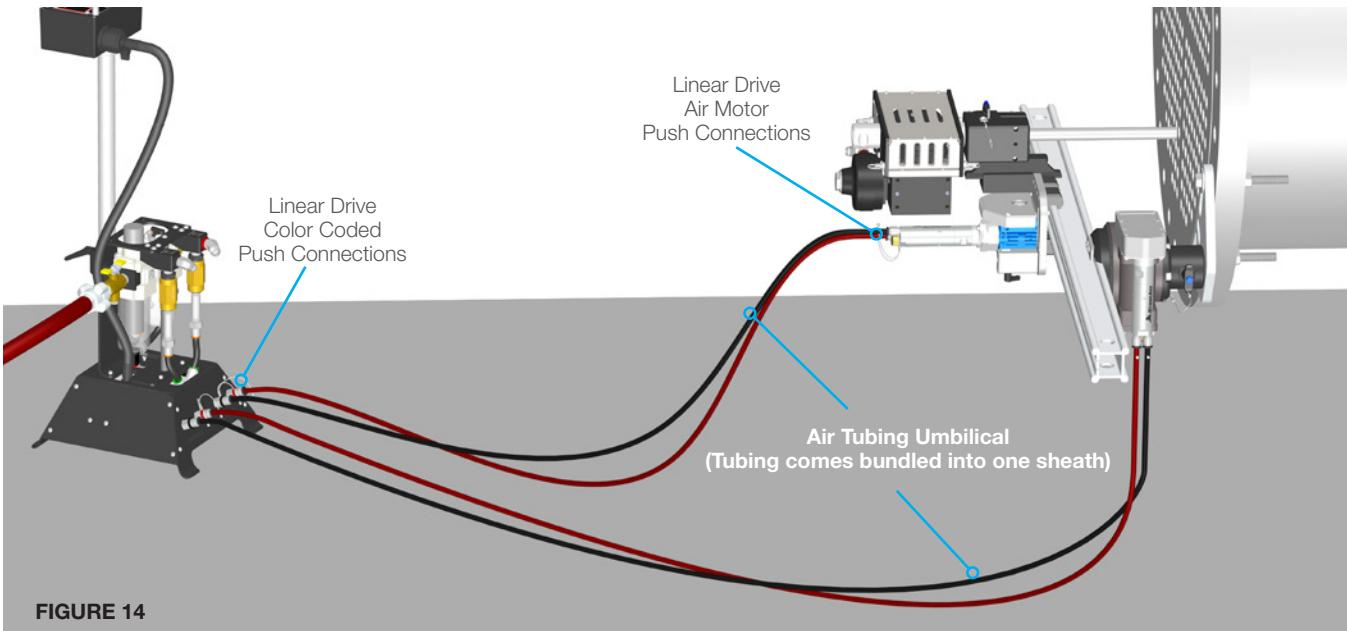

FIGURE 14
19. Connect the color coded Air Tubing to their respective Push Connect Fittings, located above the "LINEAR" label on the base of the Control Box. (**Figure 14**)
21. Connect the opposite ends of the Air Tubing to the Push Connect Fittings on the Linear Drive air motor. (**Figure 14**)
Due to the various mounting options, the Linear Drive air motor is not color coded. If the operating directions seem reversed, the connections at the air motor can easily be switched at the Push Connect Fittings. (**Figure 14**)